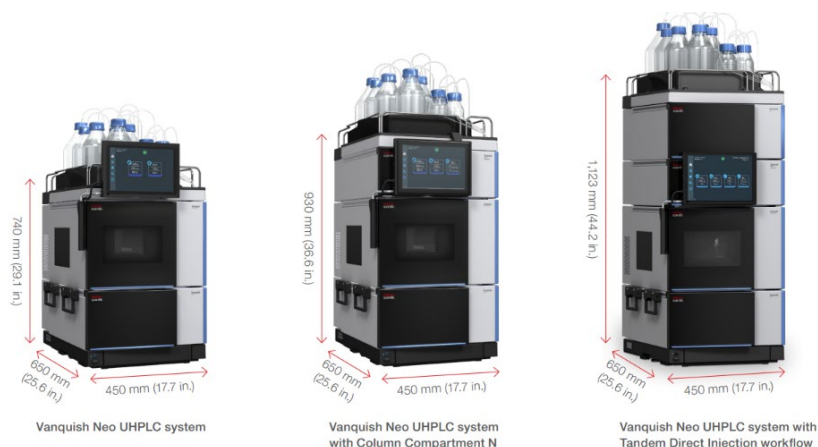

Figure 72: Comparative heights of the respective Vanquish Neo system configurations
- 1) Place the Neo System (VN-S10-A-01) on a suitable bench. Please consider the total weight (approx. 103 kg) and height of the system stack when choosing the installation location (see Figure 72).
- 3) Place the second Binary Pump N (VN-P10-A-01) on top of the column compartment and attach the solvent rack to the top. (Figure 72).